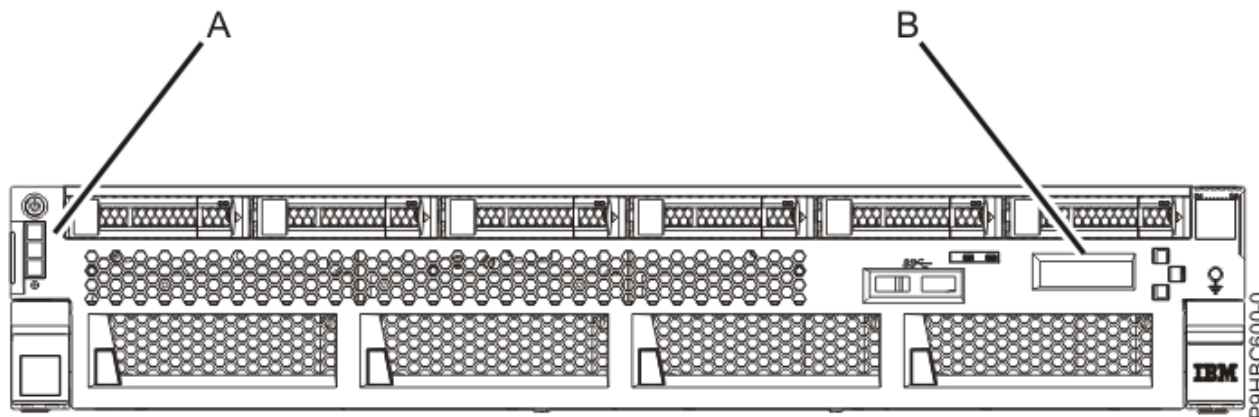

Figure 1. Control panels
Figure 1 on page 1 shows the control panel (A) and the control panel display (B).